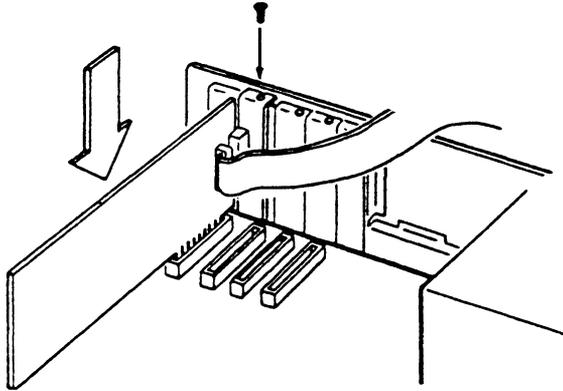

Figure 3-5 Installing the Tape Controller Card
6. Install the controller card, with cable attached, into your expansion slot as shown in Figure 3-5.